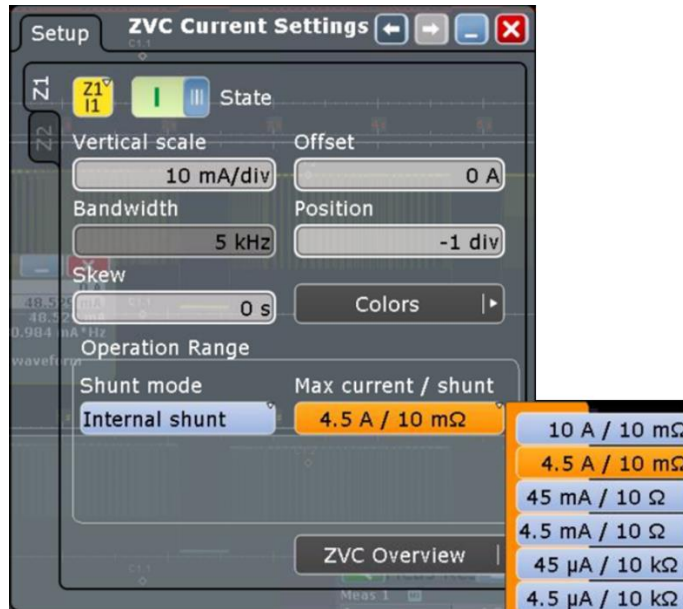

Figure 4-4: Current Measurement configuration on the RTO
For the current measurement the RTO contains switchable shunts with the values 10 mΩ, 10 Ω and 10 kΩ. Thus, current measuring ranges from 4.5 μA to 10 A full scale are available (Figure 4-4).
6. The maximum current consumption of the DUT appears to be  $\sim 150\ \text{mA}$ , which means that the 4.5A current range has to be chosen. Configure ZVC Current Settings as shown in Figure 4-4